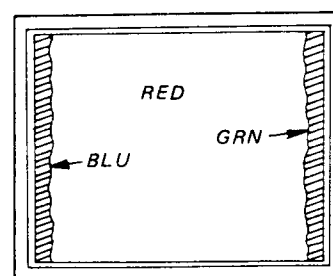

Fig. 1-2
7. Turn purity control to center vertical red band as shown in Fig. 1-2.